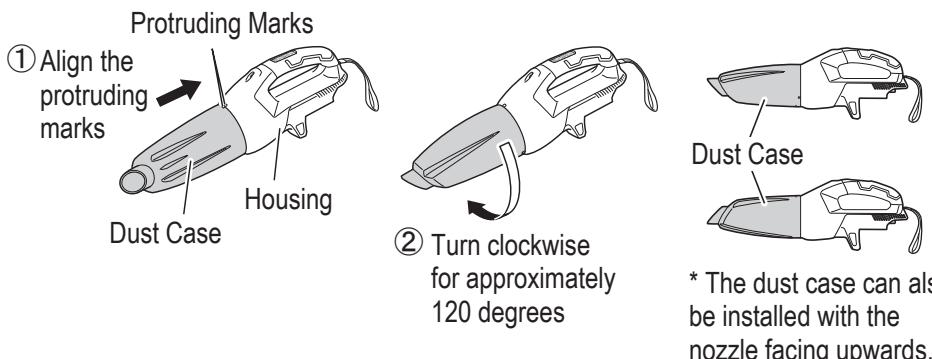

Fig. 10
(5) Install the dust case (Fig. 10)